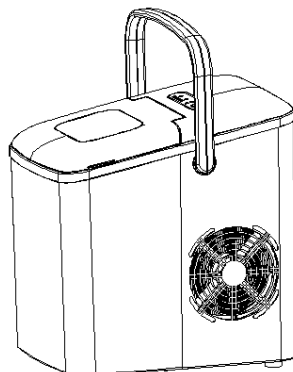

Fig.3
- 4) Grasp the centre of handle and lift it upwards (see Fig.3), check and make sure that there shall be no abnormal condition can be found.